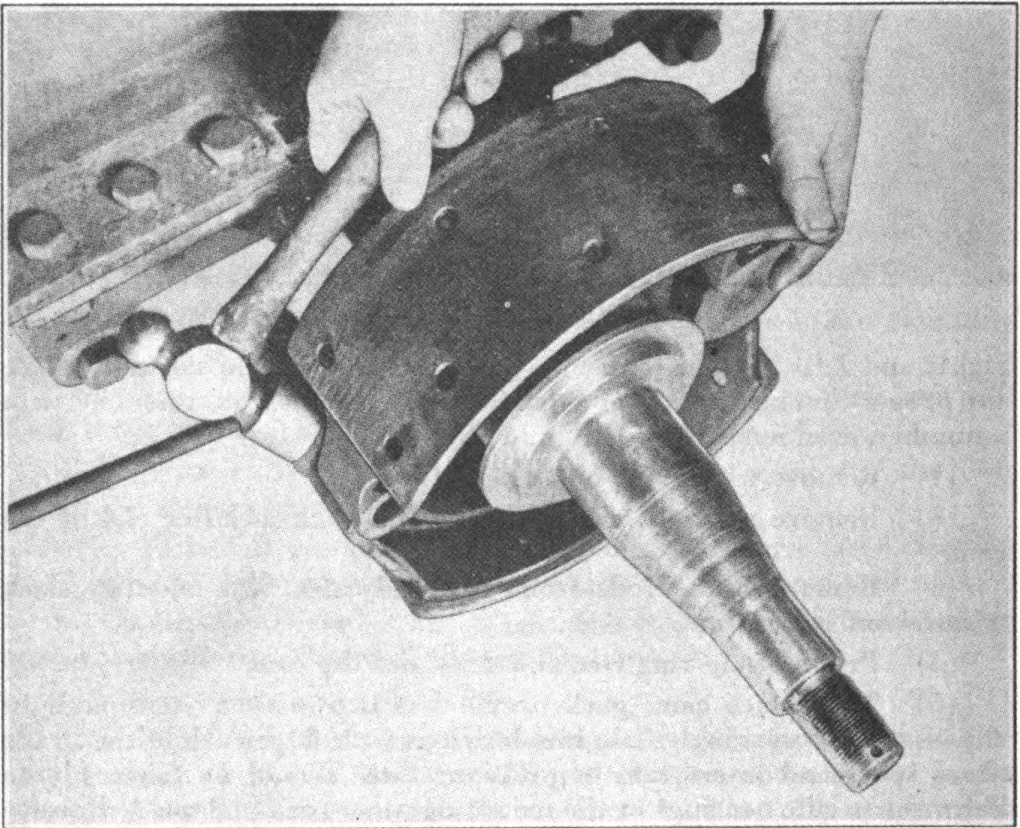

FIGURE 16. REMOVING BRAKE SHOE—REAR
6. **BRAKE SHOES, REAR.**—*a. Removal.* (Fig. 16.)—(1) Pry the snap rings off the two anchor pins using two screwdrivers.